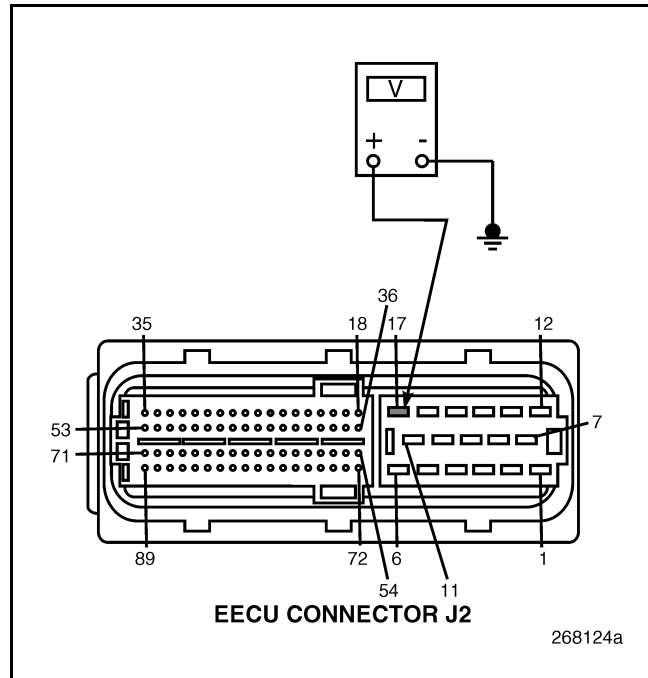

Figure 530
4. Measure the voltage between the EECU connector J2 pin 17 and a good ground (see Figure 530).